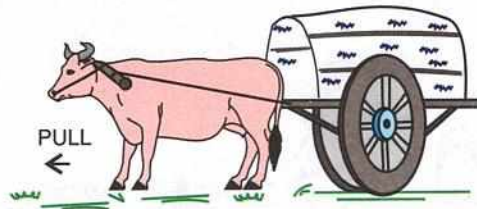

Fig. 3.4 Force as pull by a bull to move the cart
2. To move a cart, it is pulled by a bull (Fig. 3.4).
changes (Fig. 3.4), on stretching a rubber string, its length increases.